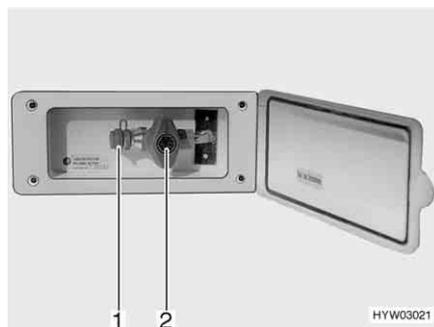

Fig. 100 External gas connection, gas isolator tap closed
The external gas connection (Fig. 100) is located at the rear or to the left or right of the vehicle depending on the model.
- Connect the external gas device to the connection point (Fig. 100,1).
- Open the gas isolator tap (Fig. 100,2).